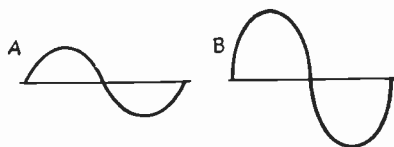

FIG. 32.
1. There are two wave pictures in Fig. 32. Which represents the stronger current?